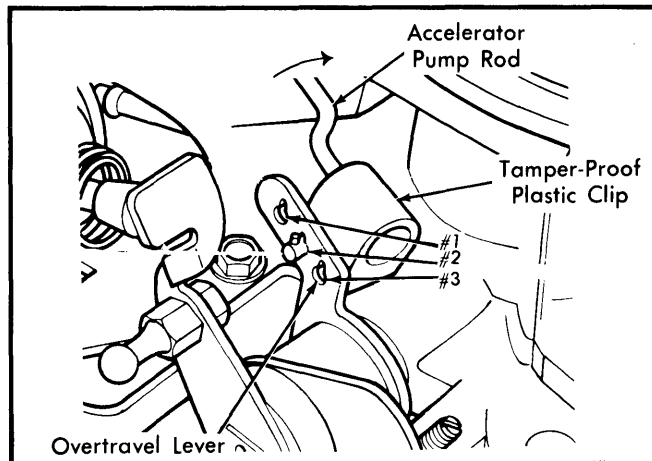

Fig. 1 Accelerator Pump Stroke
4) Position clip in specified hole of overtravel lever and insert rod assembly through hole in clip and overtravel lever. Snap end of clip over rod assembly. See Fig. 1.